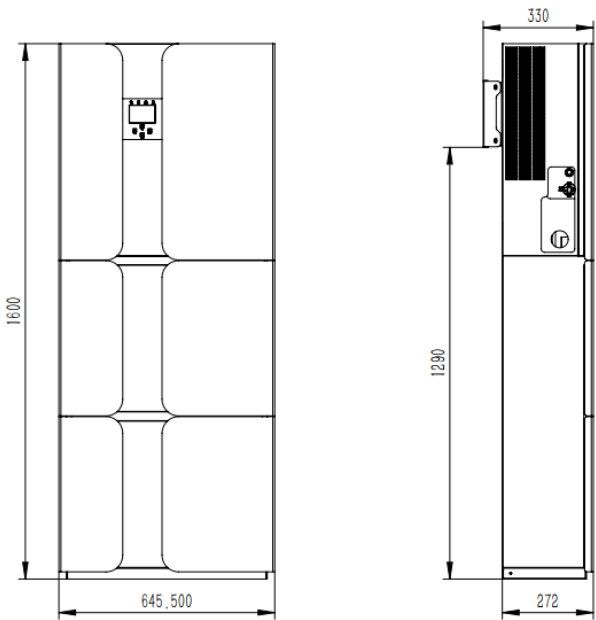

Figure 4-3: The Dimension Drawing of the Cabinet
Mark the size of the anchor hole according to the drawing in Figure 4-3.
1. Place the fixing plate to the installation position and fasten the fixing plate to the wall. As shown in Figure 4-3, the distance from the ground is 1290mm.